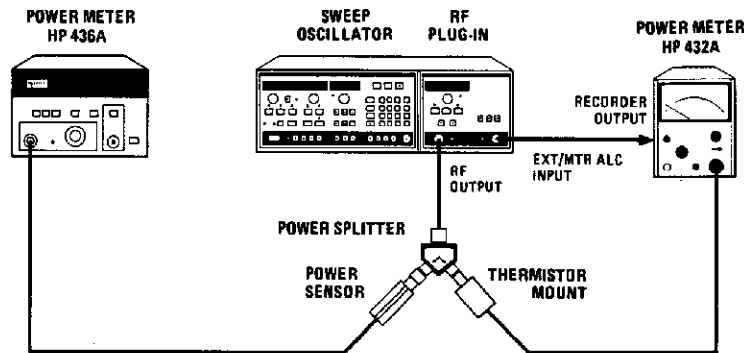

Figure 5-39. Power Meter Leveling Adjustment Setup
1. Connect the equipment as shown in Figure 5-39. On the Model 8350A/B, press [INSTR PRESET] [CW] and select a frequency at midband. Set the RF power level to -2 dBm, as indicated on the Model 83592C POWER display. Allow the equipment to warm up for one hour.